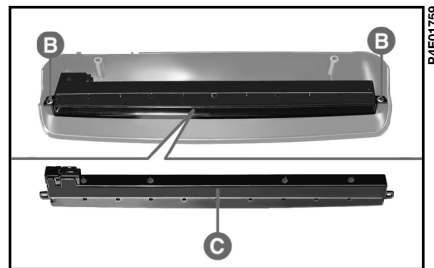

fig. 26
- 3) Unscrew the screws **B-fig. 26** and replace the bulb group C or only the burnt-out bulb.